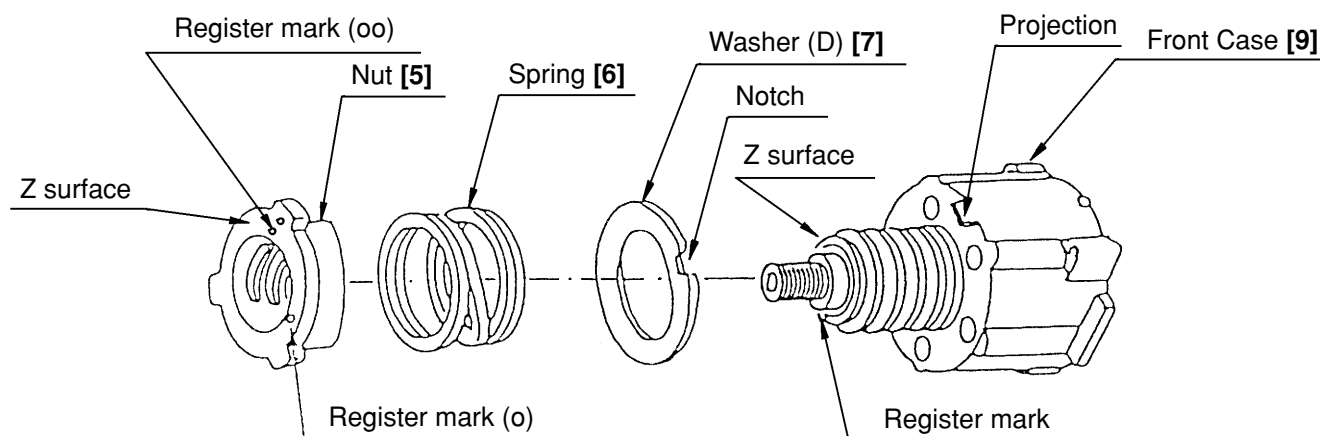

Fig. 7
(2) Reassembly of the clutch unit
- (a) Mount Washer (D) [7] and the Spring [6] to the Front Case [9]. (See Fig. 7.)